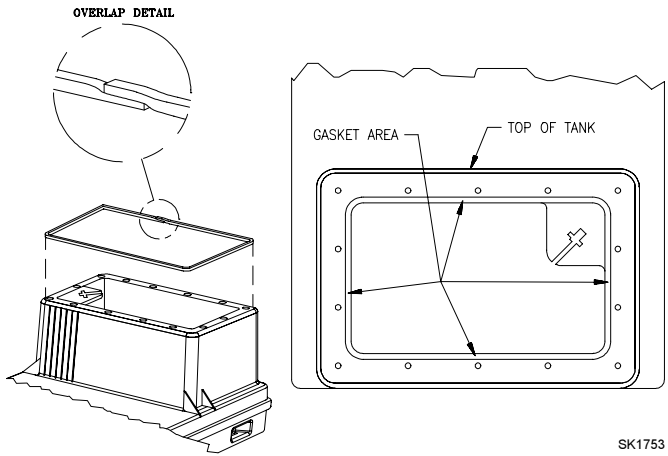

Figure 7.1
- 7.1) Apply foam gasket material to flange of pump chamber, leaving an overlap of gasket material as shown in Figure 7.1.